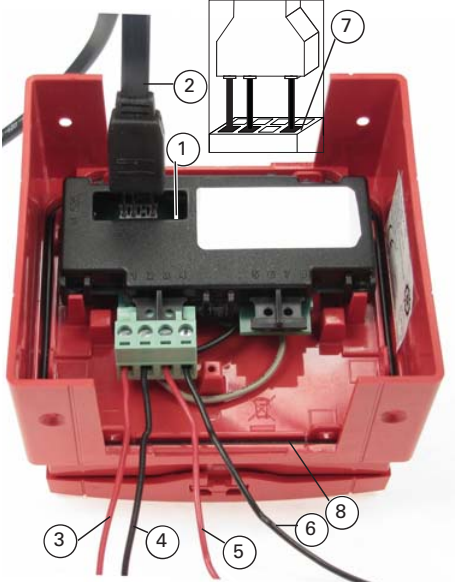

Fig. 2: FC421CP-I Rear View and Wiring Information
The FC421CP-I is programmed with the address prior to installation using an address programming tool. The associated ancillary programming lead plugs into the programming port (see items 1 and 2 in Fig 2). Refer to Fig 2 for proper orientation.
Ensure that the pins of the ancillary programming lead are inserted completely into the lower row of the programming port (see item 7 in Fig 2) for effective communication with the Address programming tool.
- 3 Connection to the FC421CP-I is made via the 4 way terminal connector as shown in Fig. 2, ensuring correct polarity.
- All conductors to be free of earths. For typical wiring configuration see Fig 2.